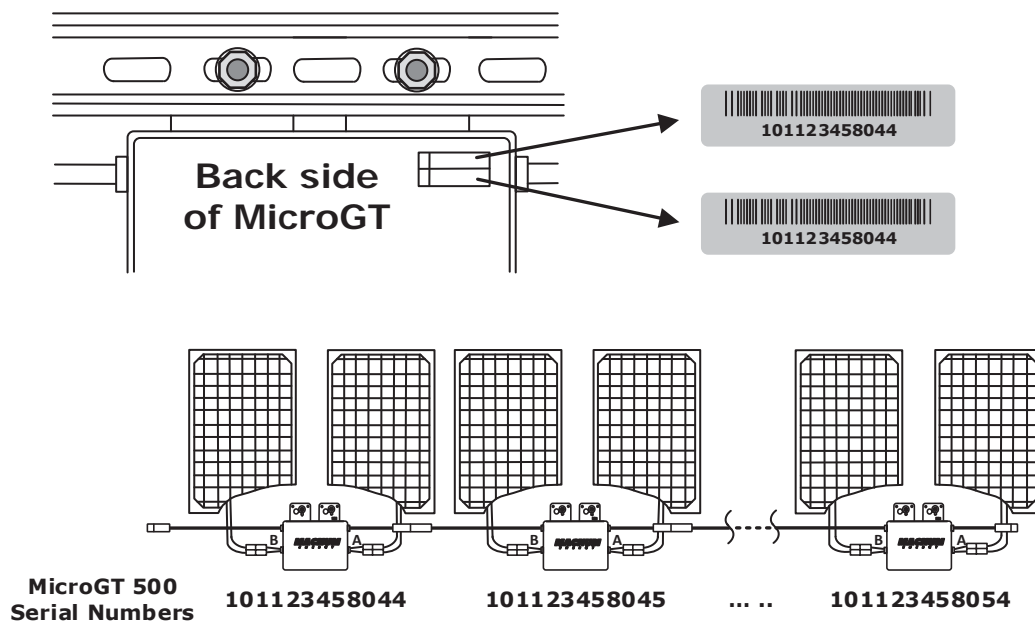

Figure 10, MicroGT Inverter Serial Numbers
1. Each MicroGT 500 inverter has a serial number label on the back side (Figure 10). Peel each label off, affix it to the respective location on the microinverter system installation map.